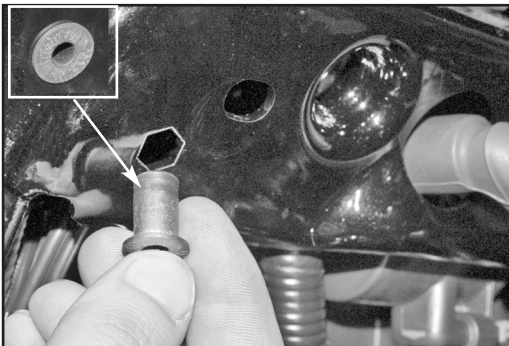

Figure 3
4. Remove the stock heat shields and / or the two bolts from the frame rail. **(12mm Box Wrench) Figure 3**